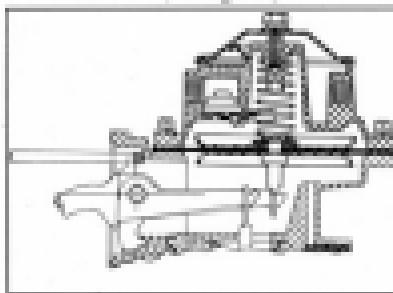

Fig. 231. Holding Diaphragm in Position with Tool while Assembling Diaphragm Cover.
3. Install **ALL** of the cover screws and lock washers, but tighten these screws by hand only enough to place a slight tension on the lock washers. (See Fig. 231)